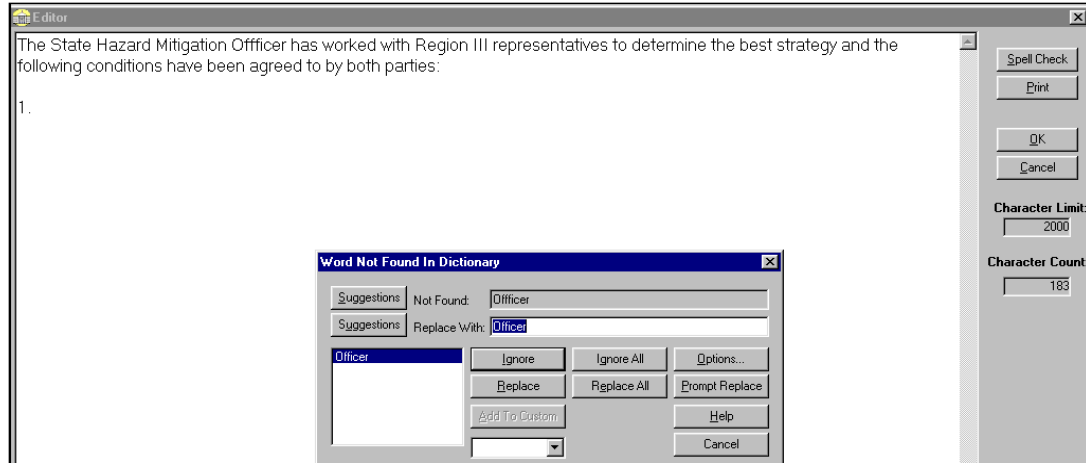

Figure 3-17: Editor/Spell-Check Screen
4. Click the SPELL CHECK button if you wish to use that feature (Figure 3-17).